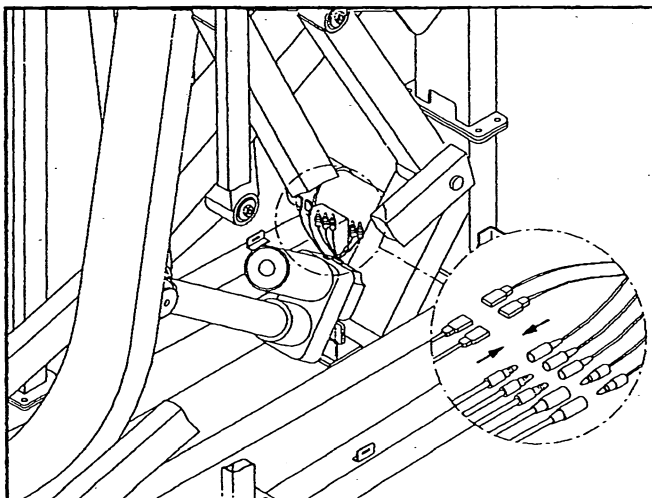

Fig.8-1
2. Unplug the five harnesses and two connectors of the VR (see fig.8-1).